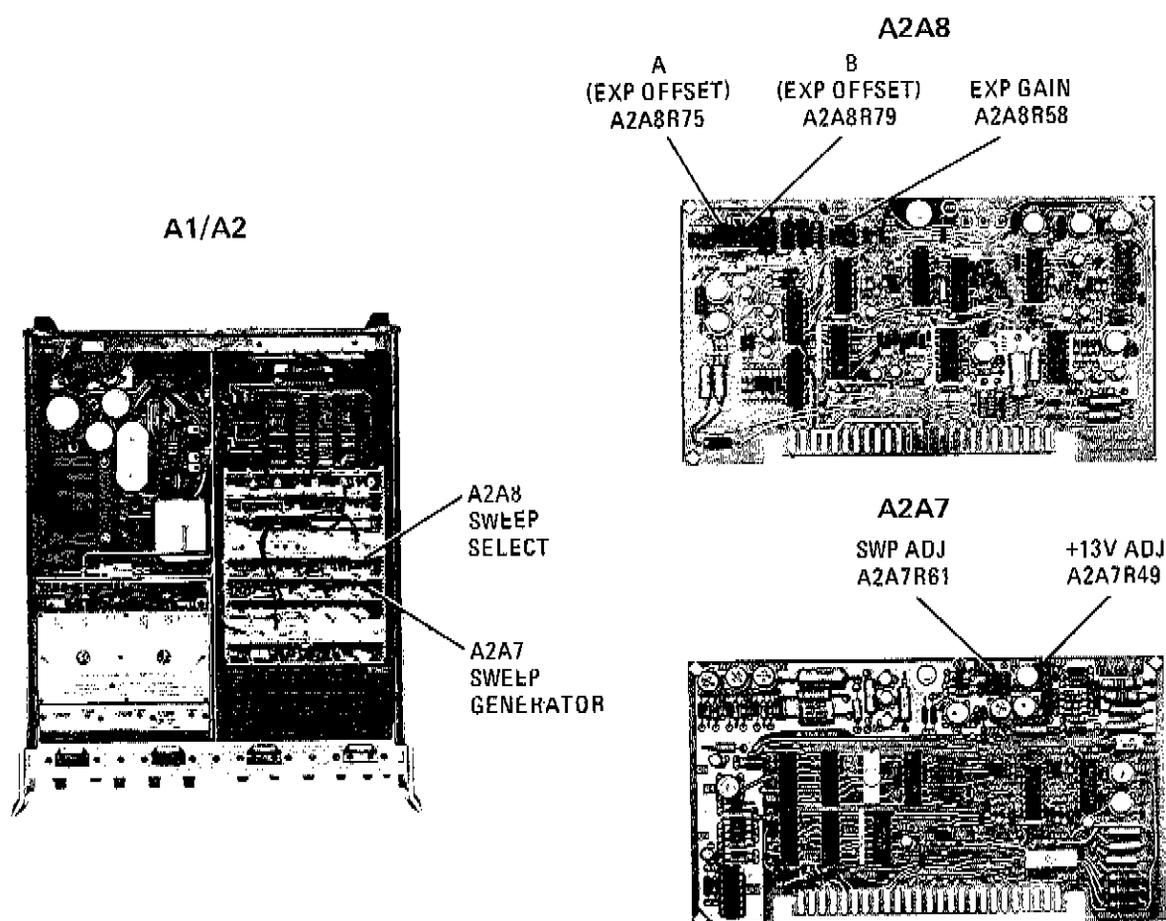

Figure A5-11. +13V Power Supply and Sweep Select Adjustment Locations
- b. Adjust A2A7R49 for +13.010 Vdc \pm 0.005 Vdc (See Figure A5-11).
- a. Connect DVM to A2A4TP4 and indication should be +13.000 Vdc +0.005, -0.000 Vdc. (If indication is out of tolerance, adjust "+13 V ADJ" A2A7R49 in +13 Volt power supply (Figure A5-11) to obtain the correct voltage.)
- b. Connect DVM to LOG Test Point A2A8TP1. On A2A7 Sweep Generator board, connect A2A7TP3 to ground to select zero volts on VSW1 line into A8, pin 14. Adjust “EXP OFFSET A” control A2A8R75 for –1.000 Vdc \pm 0.2 Vdc on DVM. Disconnect ground from A2A7TP3 (Figure A5-11).